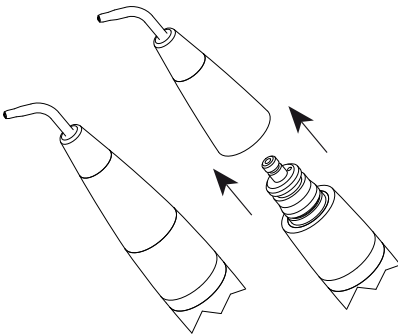

Fig. 5
- 1 Remove the front terminal from the polisher handpiece (Fig.5).
Always switch off the device by means of the right side switch (Fig.5 - Ref.A) and disconnect it from the power source, before proceeding with the following maintenance activity.